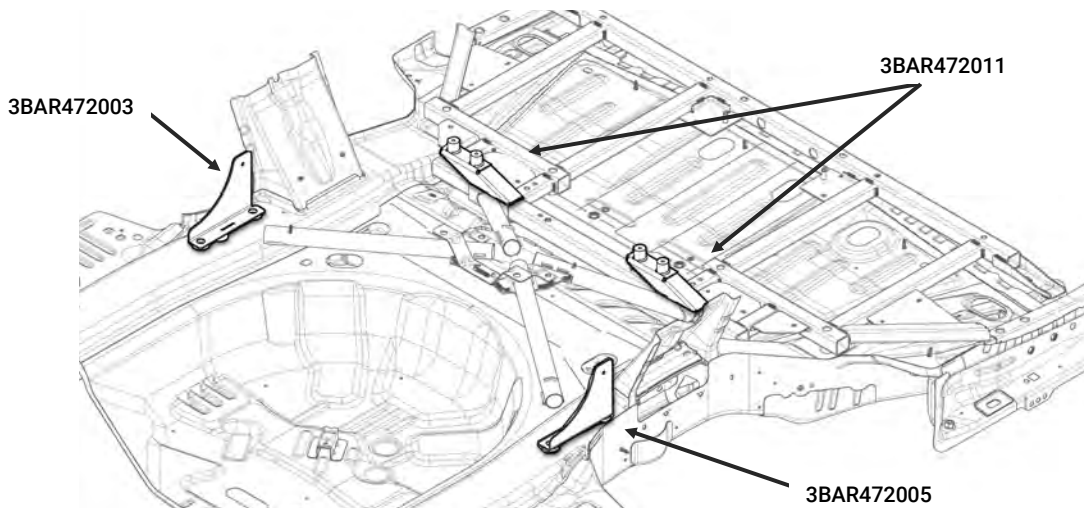

Figure 1
- B. Place (1) Barrier Support Bracket [3BAR472011] on top of the X-brace with the standoffs towards the rear of the vehicle. Set the front edge of the bracket just behind the front edge of the X-brace. Reinstall the OEM bolts and torque to factory specifications.
- F. Figure 1 on the following page shows the brackets installed.